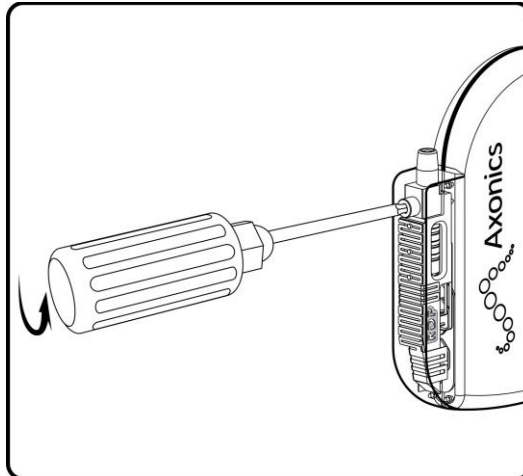

Figure 4: Use the Torque Wrench to Turn the Setscrew Counterclockwise to Back up the Neurostimulator Setscrew and Allow for Insertion of the Lead.
3. Use the torque wrench to turn the setscrew counterclockwise to back up the setscrew. **(Figure 4).**